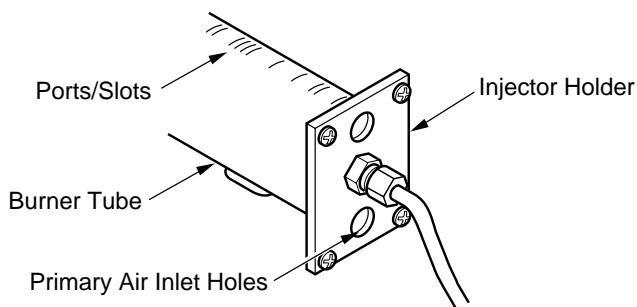

Figure 36 - Injector Holder On Outlet Burner Tube
2. Inspect burner, pilot, and primary air inlet holes on injector holder for dust and dirt (see Figure 36).